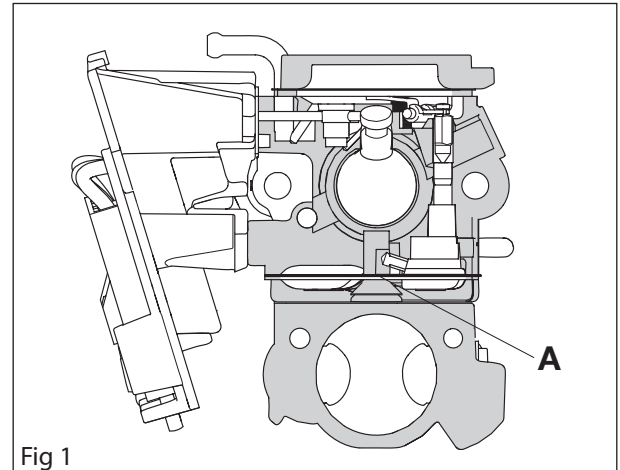

Fig 1
In the pump unit (A), fuel is pumped from the fuel tank to the carburettor's metering unit. One side of the pump diaphragm is connected to the crankcase and pulses in time with the pressure changes in the crankcase. With the help of inlet and outlet valve in diaphragm, the fuel is transferred through a filter screen to inlet needle. See figure 1.